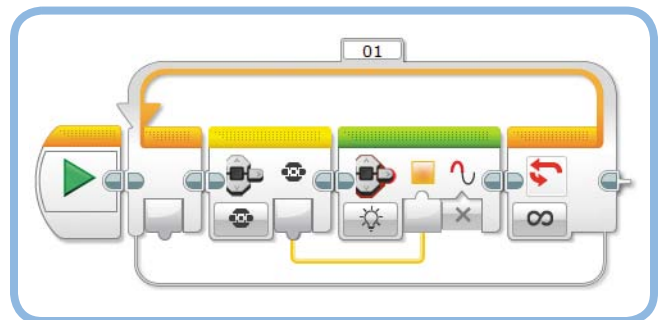

Figure 14-20: The ColorRange program
When making programs with data wires, it's important to consider what happens when a data wire value is outside the *allowed range* of values. For example, the brick status light accepts three values that set the color to green (0), orange (1), or red (2), but what happens if you control the color using a data wire that has a value of 4? To find out, create the *ColorRange* program shown in Figure 14-20; refer to Table 14-3 to see what the data wire value will be for each of the EV3 buttons.